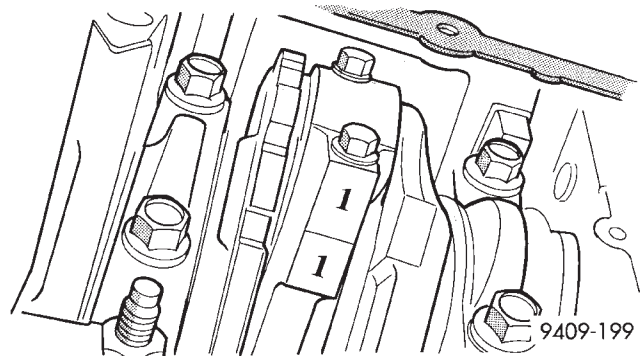

Fig. 88 Identify Connecting Rod to Cylinder
(2) Remove oil pan. Scribe the cylinder number on the side of the rod and cap (Fig. 88) for identification.